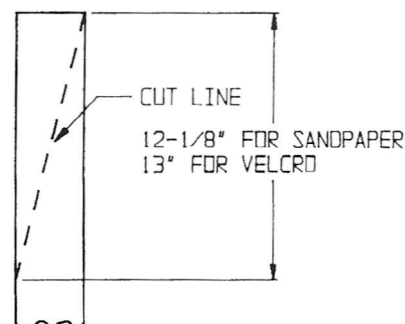

Fig. A-2
5. Remove from the head and mark a line on the diagonal using a straight edge. Then cut on the line (see fig. A-2).